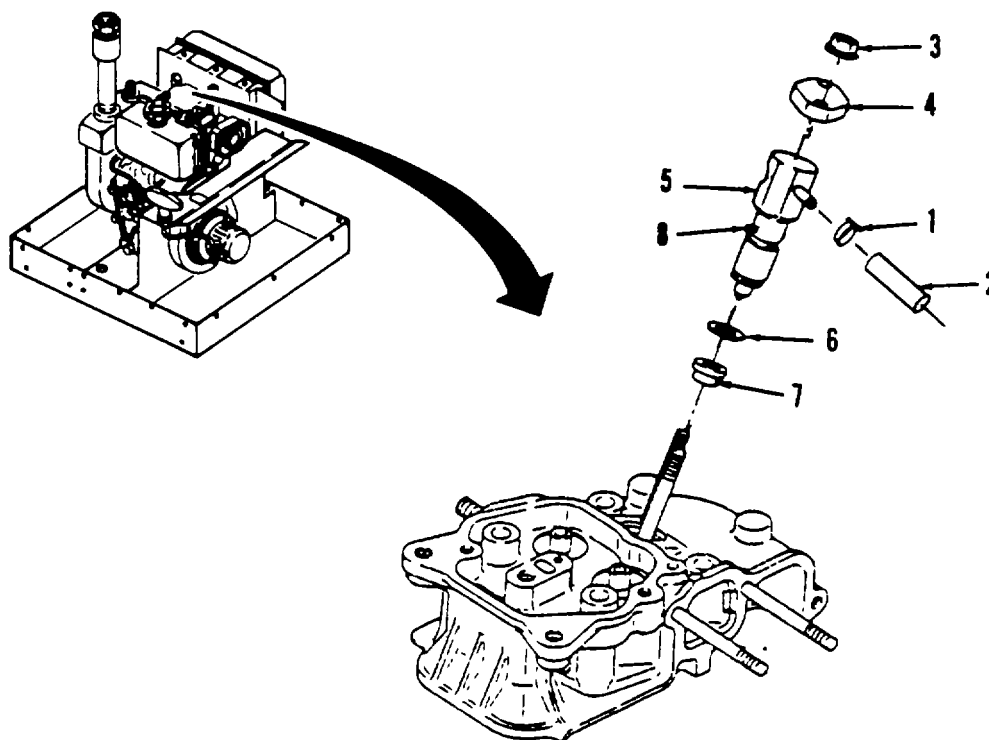

Figure 5-2. Fuel Injector Valve Assembly Replacement.
- a. **Removal.** (Refer to Figure 5-2).